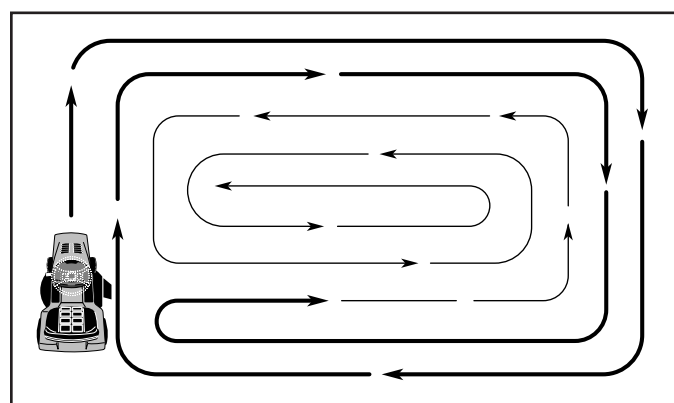

Fig. 20
- When mowing large areas, start by turning to the right so that clippings will discharge away from shrubs, fences, driveways, etc. After one or two rounds, mow in the opposite direction making left hand turns until finished (See Fig. 20).